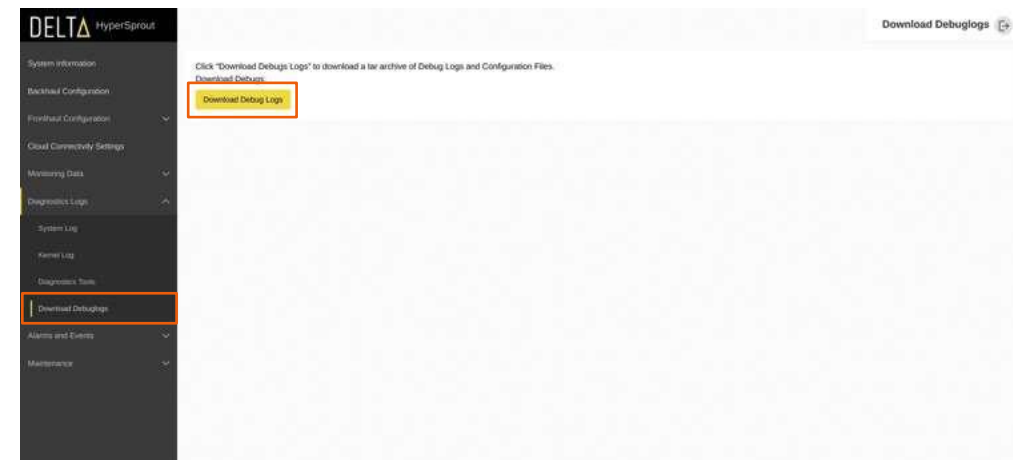

Figure 63: Download - Debug Logs
- Navigate to *Diagnostics Logs* and then select *Download Debug Logs* as shown in *Figure 63*.